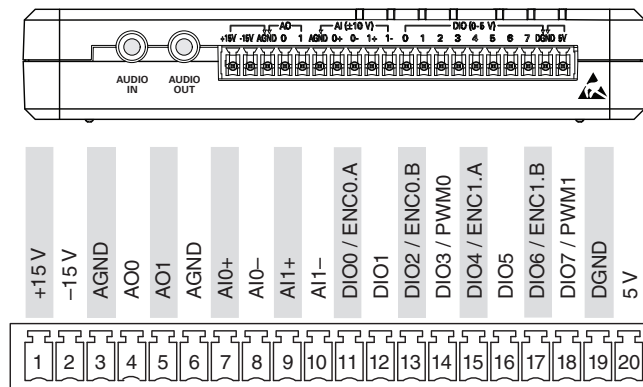

Figure 03.2: myRIO Connector C (from Instruments \(2013\)).
4. We will be using the MSP connector named C on the side of the myRIO shown in Figure 03.2.
5. With jumper wires, connect the analog output ground channel AGND (3) to the ground of your circuit (ensure this is connected to the “-” capacitor terminal).
6. Connect the analog output channel AO0 (4) to the resistor such that the analog voltage supplied via AO1 and AGND is applied across both the resistor and capacitor. You now have V_s supplied by analog output AO0.
7. Connect AI0- (8) to the circuit’s ground.
8. Connect AI0+ (7) to the node shared by the resistor and capacitor. You now have a measurement of v_o on analog input AI0.